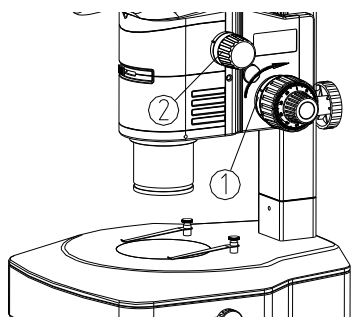

Fig. 15
1) If the handle is very heavy when coarse focusing, or the specimen leaves the focus plane soon after focusing, or the stage declines itself, these problems can be solved by adjusting the tension adjustment ring (1). (See Fig. 15)
2) Rotate the tension adjustment ring (1) according to the arrow direction in the figure, to tighten the focusing system; rotate the tension adjustment ring (1) in the opposite direction, to loosen the focusing system.
- 1) Rotate the zoom knob to the maximum magnification. (See Fig. 15)